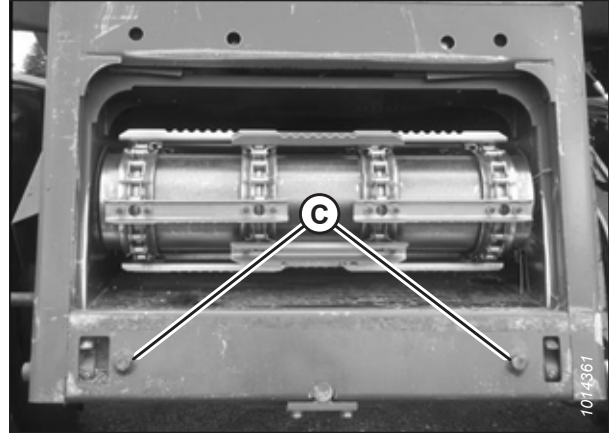

Figure 5.22: Alignment Pins on Feeder House
2. Start engine and slowly approach header until feeder house is directly under adapter top cross member (A) and alignment pins (C) on feeder house (shown in Figure 5.22, page 306) are aligned with holes (B) in the adapter frame.